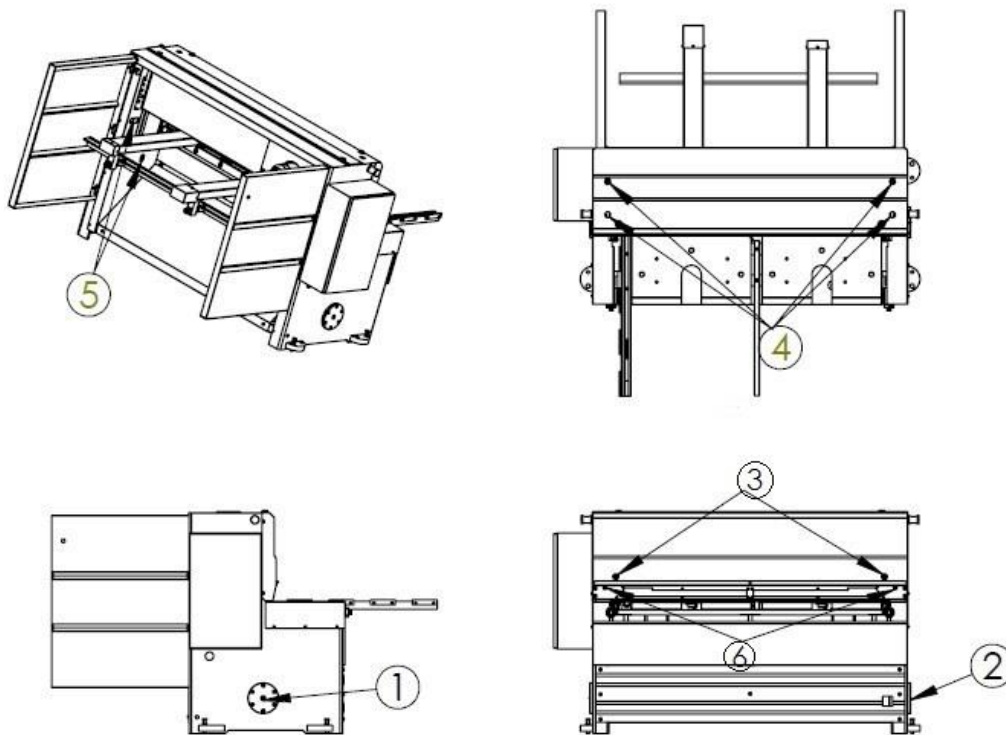

Figure 6- Lubrication Diagram of A SERIES Gear Motorized Guillotine Shear
- d- Lubricate the machine according to the lubrication diagram in Figure 6.